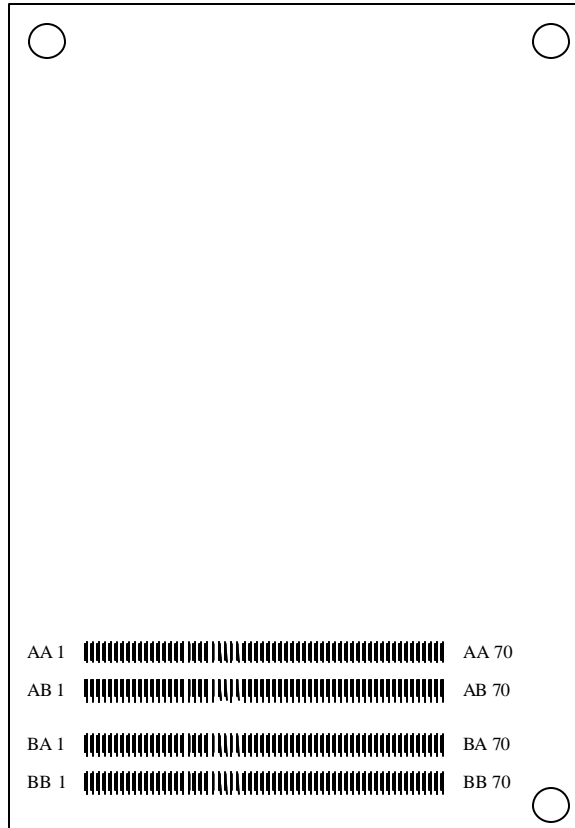

Figure 2. 280-Pin Connector Footprint Pad Numbers, Module Secondary Side
5.1.4 "Height Restrictions". Figure 2 shows the connector pad assignments for the manufacturer's system electronics.